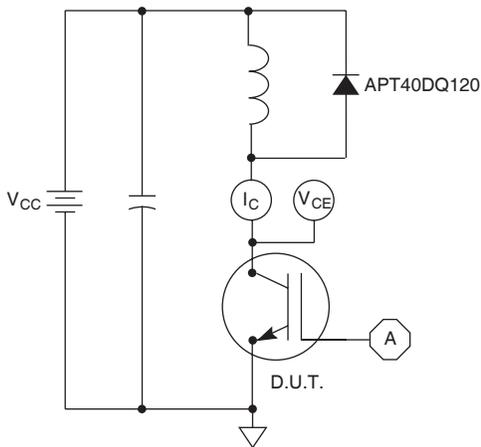

Figure 21, Inductive Switching Test Circuit
⑤ E_{on2} is the clamped inductive turn-on energy that includes a commutating diode reverse recovery current in the IGBT turn-on switching loss. (See Figures 21, 22.)
⑥ E_{off} is the clamped inductive turn-off energy measured in accordance with JEDEC standard JESD24-1. (See Figures 21, 23.)
⑦ R_G is external gate resistance, not including R_{Gint} nor gate driver impedance. (MIC4452)